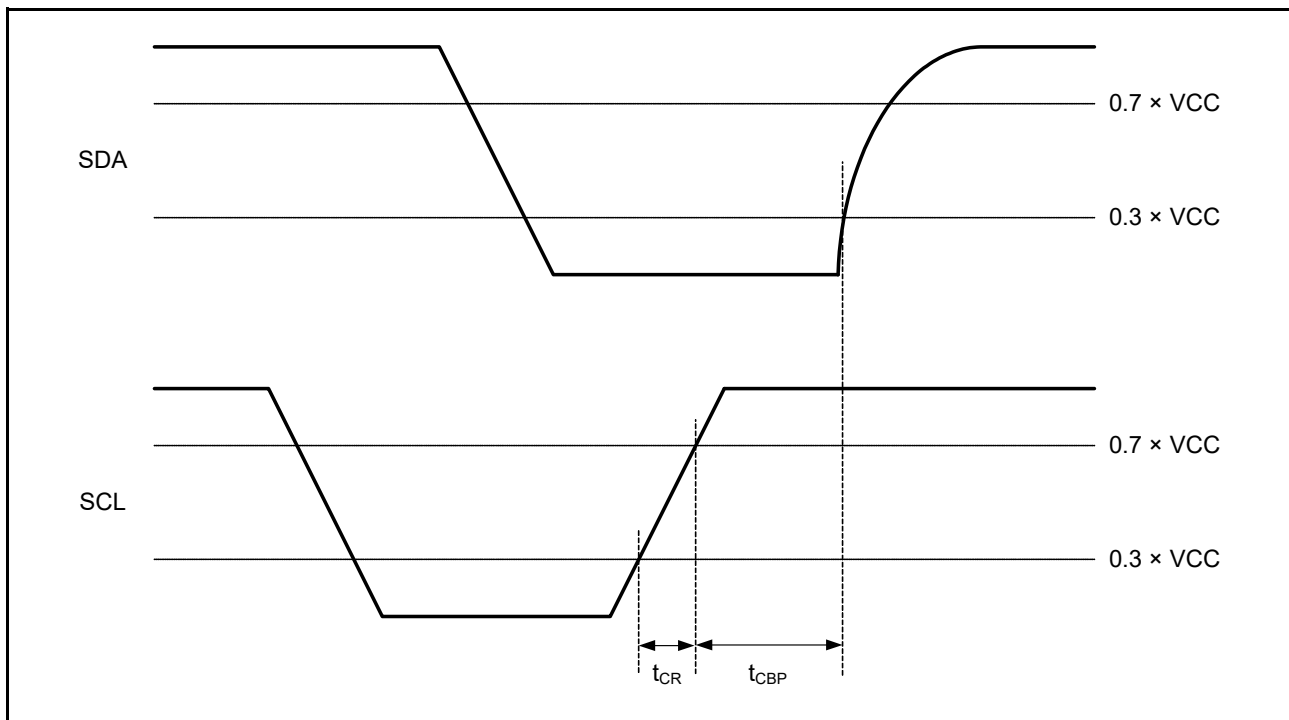

Figure 2.70 R13C Stop Condition Timing
| Clock before STOP (P) condition | t _{CBP} | t _{CASmin} /2 | — | — | sec | Figure 2.70 |